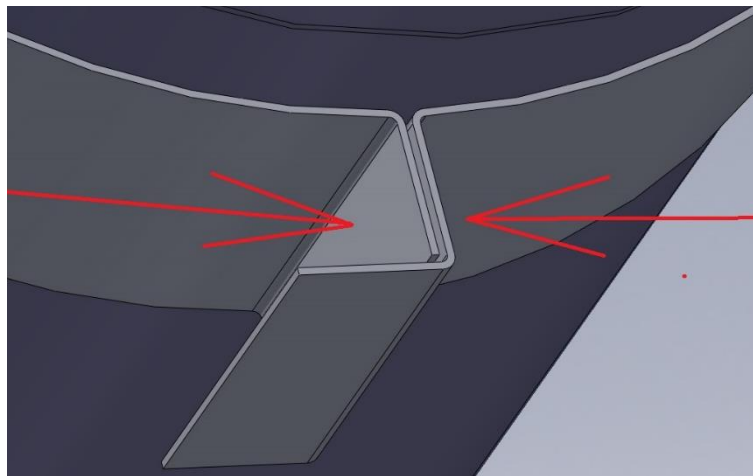

Fig. 4
- Bend the label around the swing arm body – see Fig. 4.